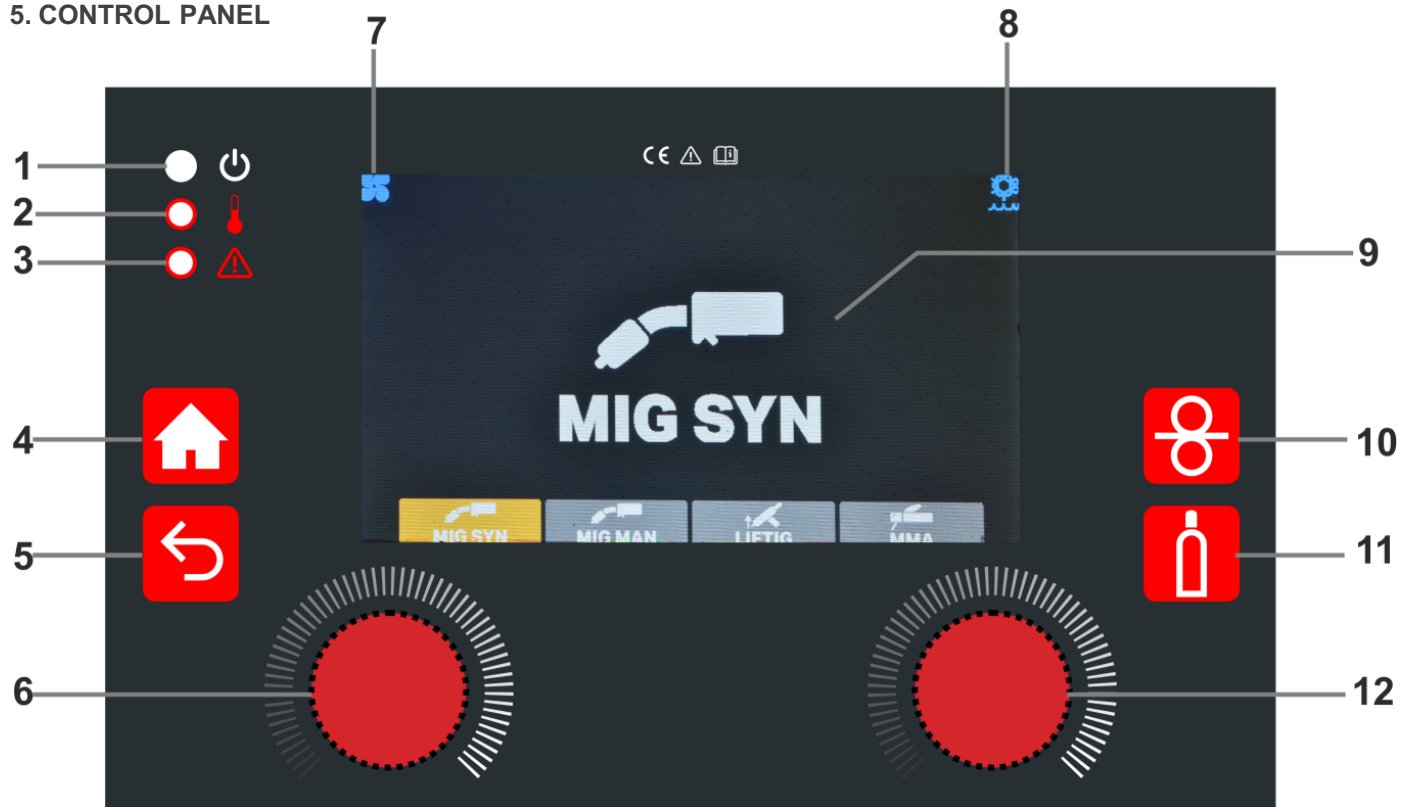
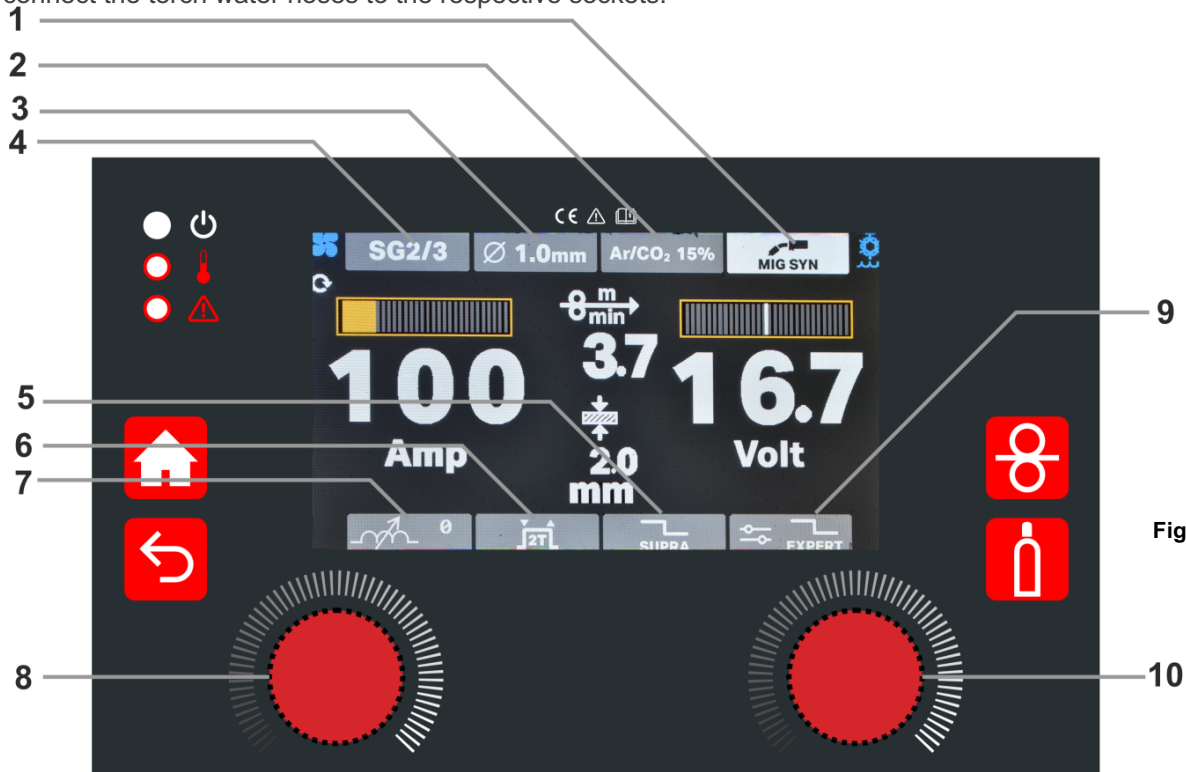
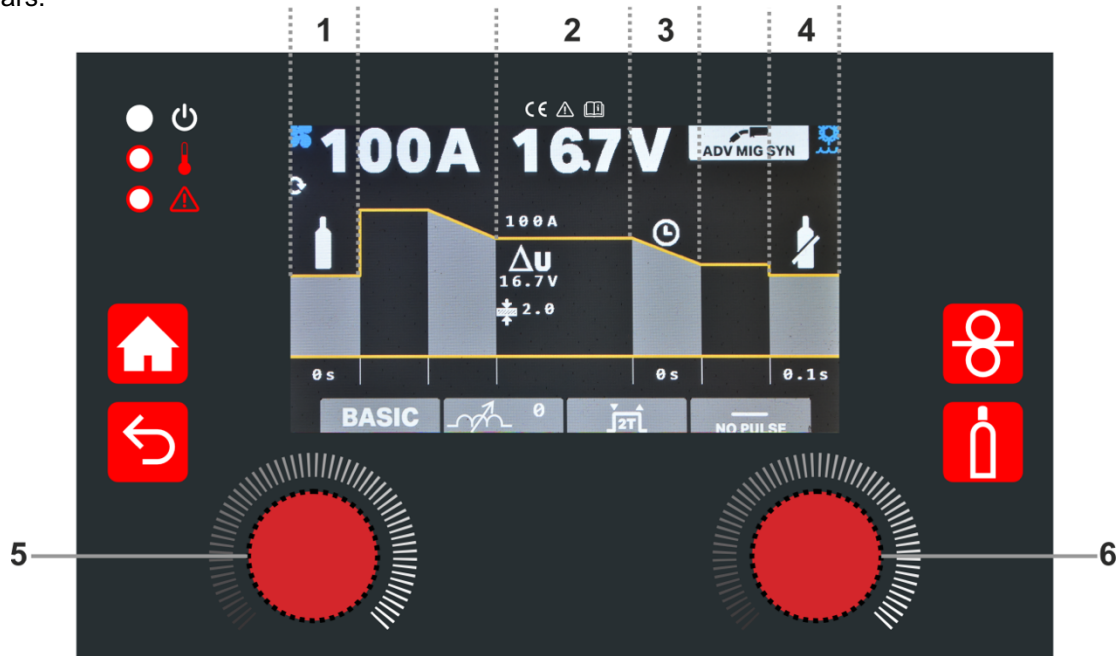
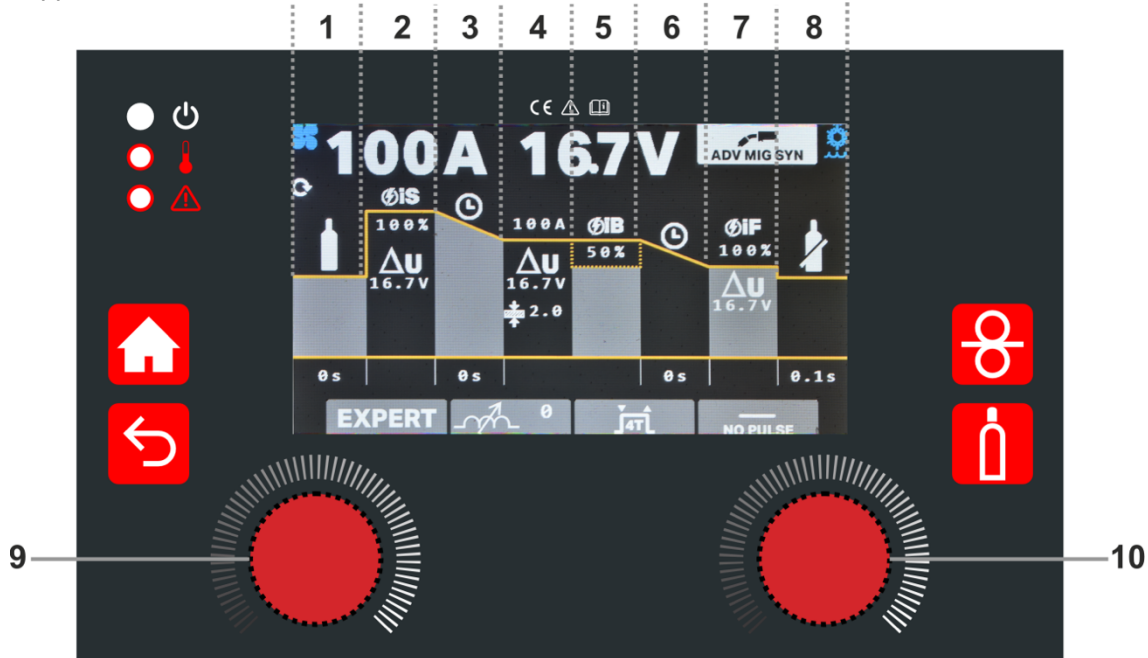

Fig 1.
Fig 5.
Fig. 6
Fig. 8
- Choose the gas type according to the selected welding program on Fig.6 – Welding programs at the following page.
Select MIG/MAG SYN welding mode by pressing right side encoder (10 - Fig. 5) on the respective menu item. You have entered the MIG SYN mode in which you can visualize the respective mode status (1 – Fig.1)
- All menu items when clicked turn red to set their value. Select the material to be welded (menu item 4 – Fig. 5), wire diameter (menu item 3 – Fig. 5) and gas type (menu item 2 – Fig. 5) with right side encoder (10 - Fig. 5) according to the following synergic programs tables:
- Adjust the inductance (menu item 7 – Fig. 5) with right side encoder (10 - Fig. 5): less inductance (narrower arc, more penetration) and more inductance (wider arc, more filling).
- Within the synergic program, you can adjust the welding current with left side encoder (8 – Fig. 5) and with right side encoder (10 - Fig. 5) you can make a fine synergic adjustment.
- You can choose between 2T, 4T or SPOT welding torch mode with right side encoder (10 - Fig. 5):
**MIG/MAG Spot mode** – When selected indicates that machine is in MIG/MAG Spot welding mode. Turn right side encoder (10 - Fig. 5) to select the SPOT time in seconds. Start spot welding by pressing torch trigger and continuing pressing until the end of the adjusted MIG welding program.
- You can choose between non pulsed short circuit welding and SUPRA (menu item 5 – Fig. 5) with right side encoder (10 - Fig. 5). SUPRA is a type of pulsed welding (an alternation between two levels of power) with short circuit transfer mode (see chapter 8.4 for more information).
In order to enter ADV MIG SYN, turn right encoder (Nr.10 – Fig. 5) until button (nr.9 – Fig. 5) turns yellow. Then press the right encoder's button. To select BASIC MODE (in ADV MIG SYN) press the right encoder's button (nr. 6 – Fig. 6) until a parameter turns yellow. Rotate the right encoder until button BASIC/EXPERT turns yellow. Press the right encoder's button to turn the BASIC/EXPERT button to red. Rotate the right encoder until BASIC mode appears.
In order to enter ADV MIG SYN, turn right encoder (Nr.10 – Fig. 5) until button (nr.9 – Fig. 5) turns yellow. Then press the right encoder’s button. To select EXPERT MODE (in ADV MIG SYN) press the right encoder’s button (nr. 10 – Fig. 8) until a parameter turns yellow. Rotate the right encoder until button BASIC/EXPERT turns yellow. Press the right encoder’s button to turn the button BASIC/EXPERT to red. Rotate the right encoder until BASIC mode appears.
FINAL SYNERGIC ADJUSTMENT	In 2T torch mode, select the final power time in seconds or final power voltage by pressing right encoder (10 – Fig.8) until start power time image is red and turning the same encoder.